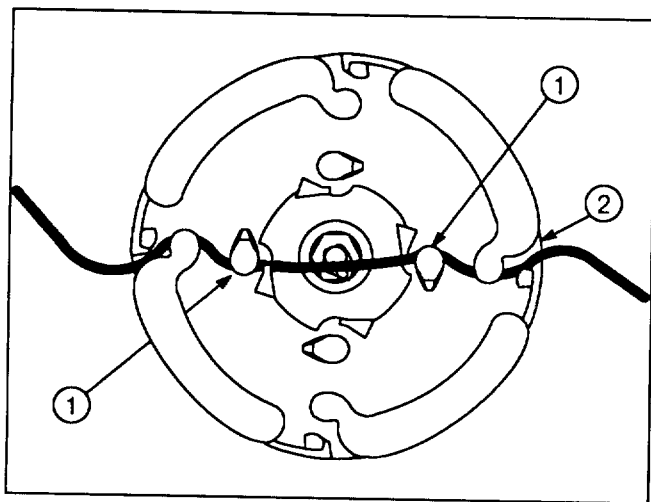

Figure 8
3. Thread the line through the cutter head guides as shown in Figure 8. Make sure that the center-line mark lines up on the cutter head shaft.